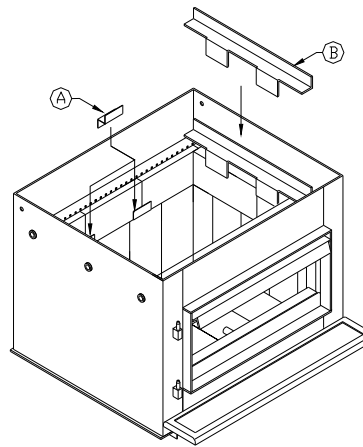

Figure 3.4a
- 1- Install the stainless steel brick retainers (A) on the rear center bricks intersections.
- 2- Install the first side baffle support (B) on one side of the firebox as shown in figure 3.4a.